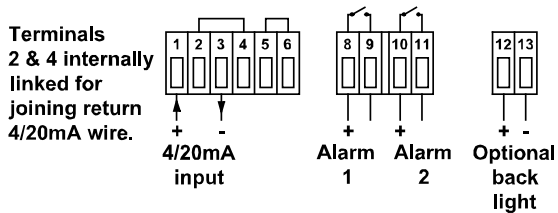

Fig 5 Installation and terminal connections
Fig 5 illustrates the instrument installation procedure.
- Fix panel mounting clips to the sides of the BA526C and tighten until the instrument is secure - see Fig 5. Recommended torque 22cNm (1.95 ldf in). **Do not over tighten.** If an IP65 seal is required between the enclosure and the instrument panel, four panel mounting clips must be used.
- Connect the panel wiring to the rear terminal block(s) as shown in Fig 5. To simplify installation the terminals are removable so that the wiring can be completed before the instrument is installed.